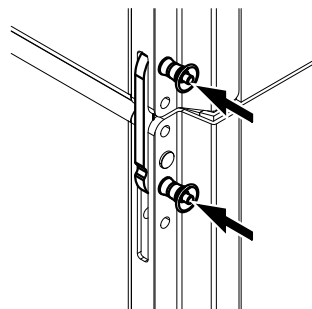

Fig. 2: SUB to SUB, 0° splay
- b. SUB to SUB with 0° splay between the cabinets (\Rightarrow Fig. 2).